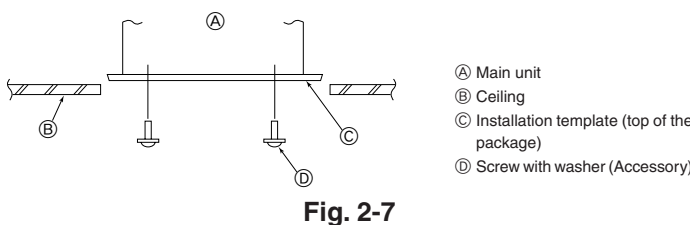

Fig. 2-7
2.6. Confirming the position of main unit and tightening the suspension bolts (Fig. 2-7)